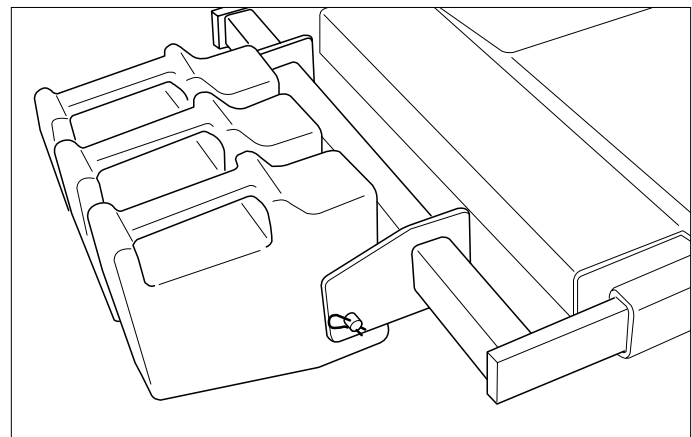

Figure 44. Weight & Retainer Rod Installation
6. Install the counter weights supplied with the grass collector on the weight mount rack (see Figure 44).
7. Install the weight retainer rod through the weight mount rack and secure with the hairpin clips (see Figure 44).